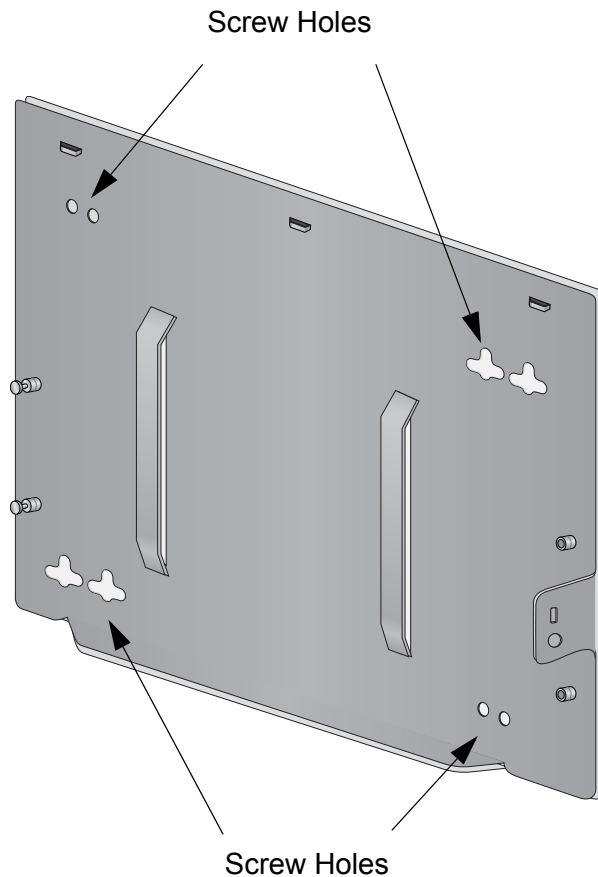

Figure 14. Screw Holes on the Bottom Panel of the AT-BRKT-J26 Bracket
- ❑ The base panel has eight screw holes. Refer to Figure 14 on page 38. The holes are grouped in pairs. The unit should be secured to the wall or ceiling with a minimum of four screws. You may use either screw hole in a pair to secure the panel.